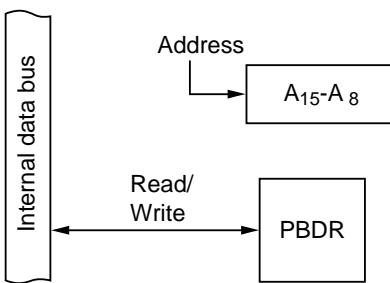

**Figure 10-80 Output Port (Mode 7)**
**(3) Output Port (Mode 7):** Figure 10-80 shows a block diagram illustrating the general-purpose output function. Table 10-60 indicates register read/write data. The value written in the port B data register (PBDR) is output at the pin. When read, PBDR returns the value written in PBDR.